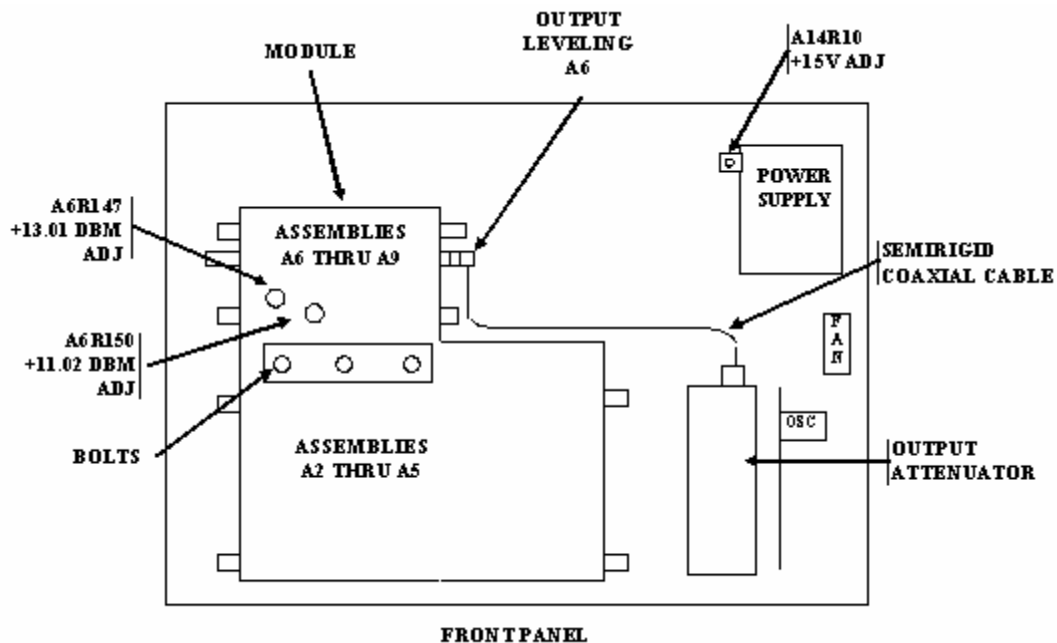
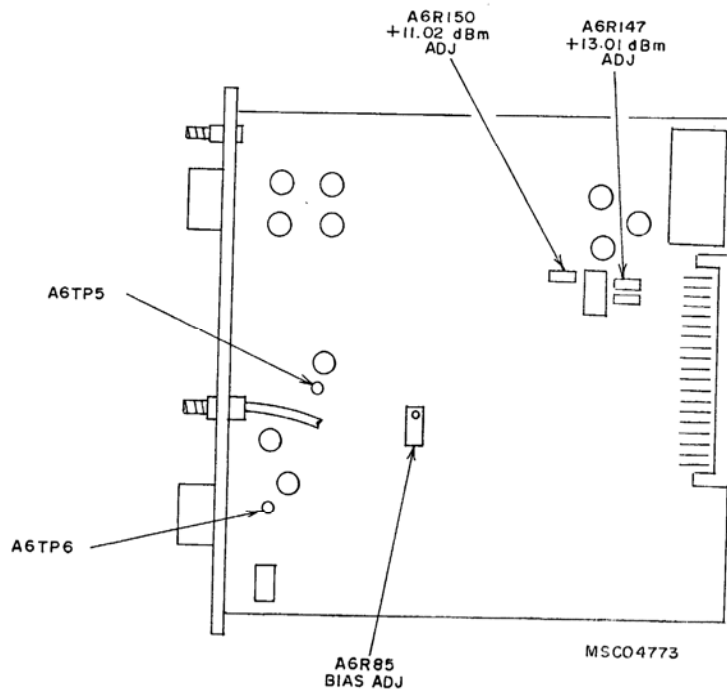

Figure 1. Test Instrument – top view.
Figure 2. A6 output amp/level control.
- (1) Press **ON-STBY/POWER** pushbutton to **OFF**.
- (2) Remove top cover.
- (3) Remove three bolts that hold module to chassis (fig. 1).
- (4) Remove semi rigid coaxial cable (fig. 1).
- (5) Turn TI on side and remove module from chassis (fig. 1).
- (6) Remove assemblies A6 and A7 (fig. 1) and place on extender boards.
- (7) Install cable from A6 **OUTPUT LEVELING** to output attenuator (fig. 1).
- (8) Press **ON-STBY/POWER** pushbutton to **ON**, then press **10, kHz/+dBm, AMPLITUDE, 13.01, kHz/+dBm** pushbuttons.
- (9) Ground A6TP5 (fig. 2).
- (10) Connect multimeter between A6TP6 (fig. 2) and chassis ground. Adjust **BIAS ADJ A6R85** (fig. 2) for  $0\text{ V} \pm 0.01\text{ V}$  dc (R).
- (13) Remove extender boards and reinstall assemblies A6 and A7 (fig. 1) into module.
- (14) Replace module in chassis and secure.
- (15) Replace semi rigid coaxial cable removed in (4) above.
- (16) Repeat **a** (8) above.
- (17) Press **ON-STBY/POWER** pushbutton to **ON** and allow TI to operate at least 30 minutes.
- (18) Press **10, kHz/+dBm, AMPLITUDE, 13.01, and kHz/+dBm** pushbuttons.
- (19) Adjust A6R147 (fig. 2) (+13.01 dBm ADJ) for 1 V  $\pm$ 0.005 V ac on multimeter. Note and record the difference from 1 V (R).
- (20) Press **AMPLITUDE, 11.02, and kHz/+dBm** pushbuttons.
- (21) Adjust A6R150 (fig. 2) (+11.02 dBm ADJ) for a multimeter reading listed in table 5 corresponding to the difference recorded in (19) above (R).
(1) Assemblies A2 through A9 (fig. 1) must be installed before adjustments can be made.
**b. Adjustments.** Adjust A14R10 (+15 V ADJ) (fig. 1) for a 15 V dc indication on multimeter (R).